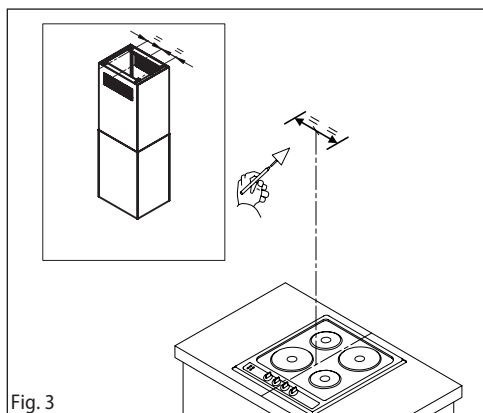
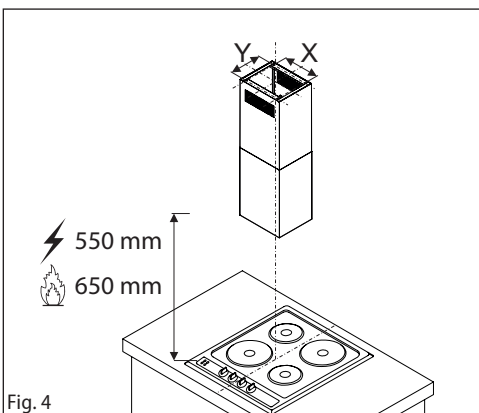
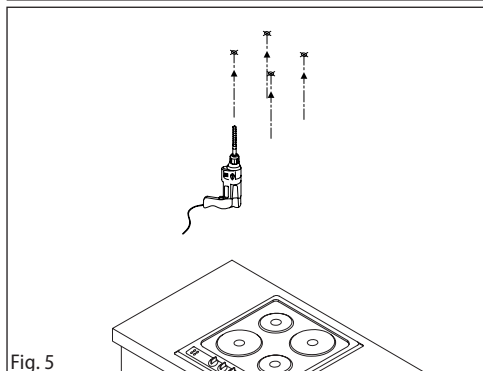

Fig. 3
Fig. 4
Fig. 5
2. Mark the position of the centre of the cooking hob on the ceiling above the hob (Figure 3). Prior to installation itself, ensure there will be enough space vertically between the hood and the cooker hob, when the hood will be hanging in its place (at least 550 mm from the electric hob or 650 mm from the gas hob), (Figure 4).
3. Mark and drill the holes for mounting the cooker hood holder for attaching on the ceiling (Figure 4 and Figure 5).